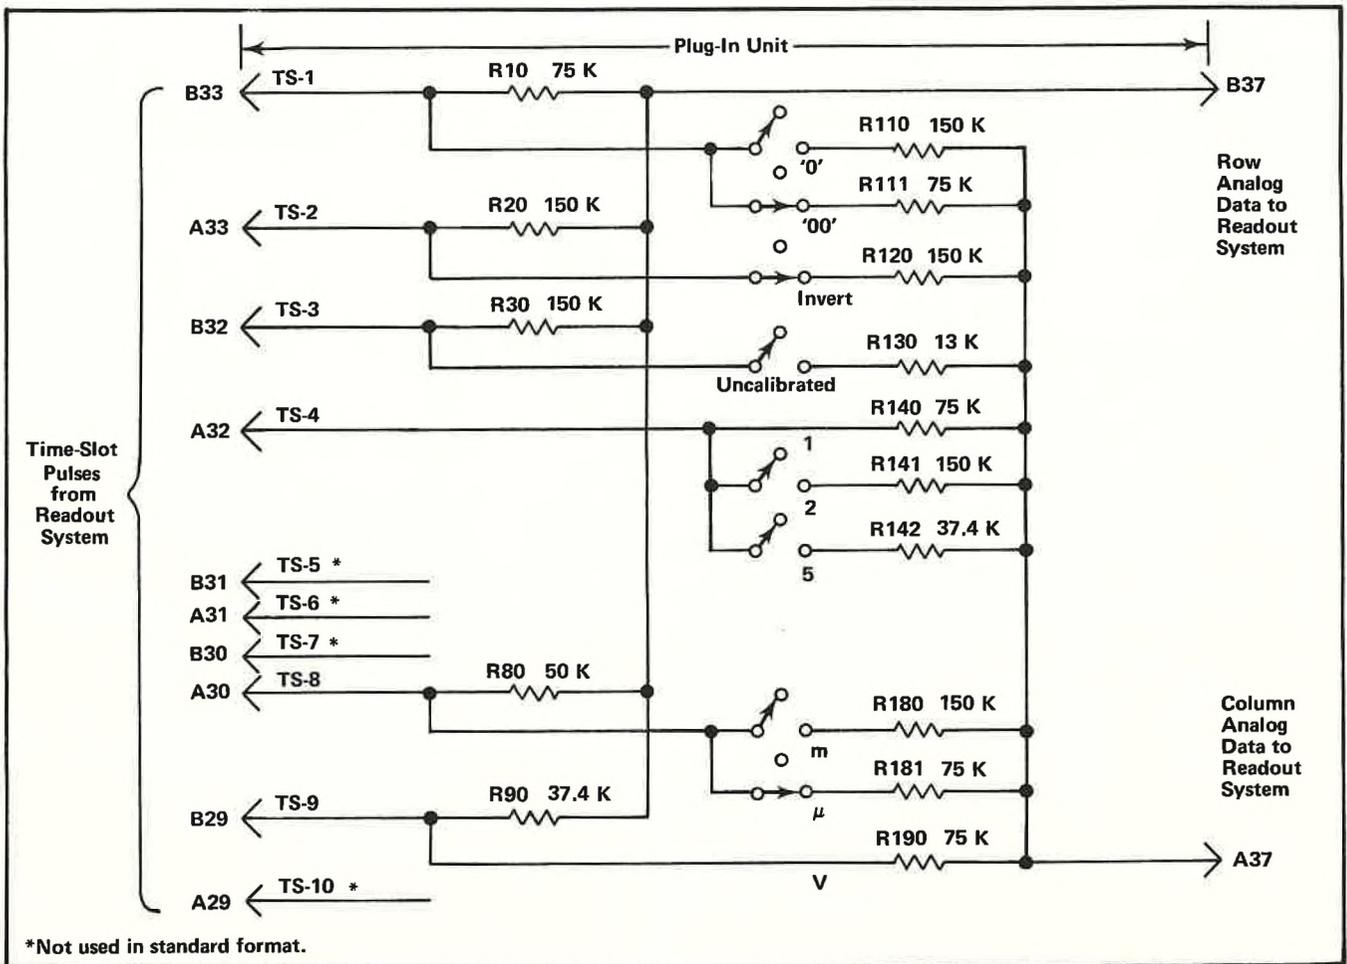

Fig. 3-38. Typical encoding scheme for voltage-sensing plug-in unit. Coding shown for deflection factor of 100 microvolts.
Data is conveyed from the plug-in unit to the Readout System in the form of an analog code having up to 11 current levels (from zero to one milliampere in 100 microampere steps). The characters which can be selected by the encoded data are shown on the Character Selection Matrix (see Fig. 3-31). Each character requires two currents to define it; these currents are identified as the column current and the row current which correspond to the column and row of the matrix. The column and row data is encoded by resistive programming in the plug-in units. Fig. 3-38 shows a typical encoding scheme for a voltage-sensing amplifier plug-in unit. Notice that the 10 time-slot (TS)
For example, in Fig. 3-38, resistors R10 through R90 control the row analog data which is connected back to the Readout System. These resistors are of fixed value and define the format in which the information will be presented by the Readout System. Fig. 3-39A shows an idealized output current waveform of row analog data which results from the 10 time-slot pulses. Each of the steps of current shown in these waveforms corresponds to 100 microamperes of current. The row numbers on the left-hand side of the waveform correspond to the rows in the Character Selection Matrix shown in Fig. 3-31. The row analog data is connected back to the Readout System via terminal B37 of the plug-in interface.
The Column analog data is defined by resistors R110 through R190. The program resistors are connected to the time-slot lines by switch closures to encode the desired data. The data as encoded by the circuit shown in Fig. 3-38 indicates a 100 microvolt sensitivity with the display inverted and calibrated vertical deflection factors. This results in the idealized output current waveforms shown in Fig. 3-39B at the column analog data output, terminal A37 of the plug-in interface. Resistor R111, connected between time-slot 1 and the column analog data output encodes two units of current during time-slot 1. Referring to the Character Selection Matrix, two units of column current along with the two units of row current encoded by R10 (row 3) indicates that two zeros should be added to the display. Resistor R120 adds one unit of column current during time-slot 2 and along with the one unit of current from the row output, the Readout System is instructed to add an invert arrow to the display. R130 is not connected to the time-slot 3 line since the vertical deflection factors are calibrated. Therefore, there is no column current output during this time-slot and there is no display on the CRT (see Display-Skip Generator for further information). During time-slot 4, two units of column current are encoded by R140. There is no row current encoded during this time-slot and this results in the numeral 1 being displayed on the CRT. Neither row nor column analog data is encoded during time-slots 5, 6 and 7 as defined by the Standard Readout Format. During time-slot 8, two units of column current and three units of row current are encoded by resistors R181 and R80 respectively. This addresses the μ prefix in the Character Selection Matrix. The final data output is provided from time-slot 9 by R190 connected to the column output and R90 to the row output. These resistors encode three units of column current and four units of row current to cause a V (volts) to be displayed. Time-slot 10 is not encoded in accordance with the Standard Readout Format. The resultant CRT readout will be $\downarrow 100 \mu$ V.
connectors of vertical plug-in units. A special coding ring around the input connector of the plug-in unit senses the attenuation ratio of the probe (with readout-coded probes only). The probe contains a resistor which results in additional column current. For example, if a 10X attenuator probe is connected to a plug-in with the coding for 100 microvolts as shown in Fig. 3-38, an additional unit of current is added to the column analog data during time-slot 1. Since two units of current were encoded by R111 (see Fig. 3-38), this additional current results in a total of three units of column analog current during this time-slot. Referring to the Character Selection Matrix, three units of column current along with the two units of row current encoded by R10 indicates that the prefix should be reduced. Since this instruction occurs in the same time-slot which previously indicated that two zeros should be added to the display and only one instruction can be encoded during a time-slot, the zeros do not appear in the display. The CRT readout will now be reduced to 1 mV (readout program produced by plug-in same as for previous example).
Finally, memory C is interrogated during time-slot 8 to obtain information on whether the prefix should be reduced or left at the value which was encoded. If data has been encoded which calls for a reduction in prefix, a negative-going output level is produced at pin 7. This negative level subtracts one unit of column current from the data at the input to the Column Decoder stage. Notice on the Character Selection Matrix of Fig. 3-31 that a reduction of one column when row 4 is programmed results in a one unit reduction of the prefix. For example, with the 100 μ V program shown in Fig. 3-38, if the data received from the plug-in called for a reduction in prefix the CRT readout would be changed to 1 mV (zeros deleted by program; see Encoding the Data).